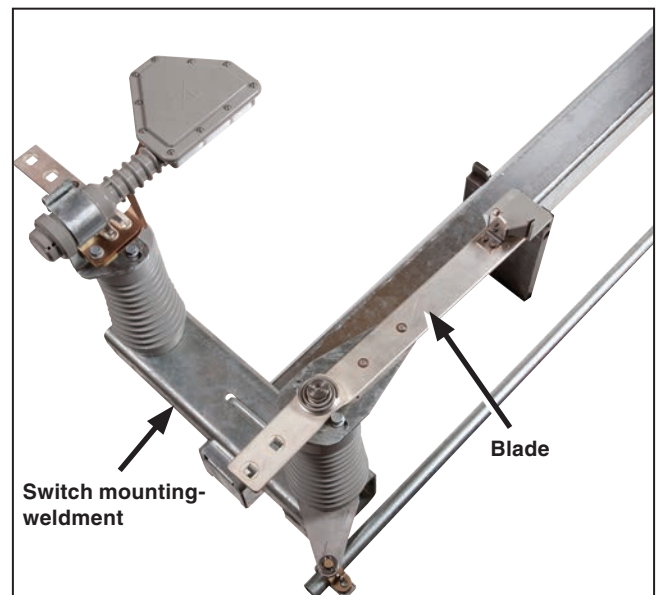

Figure 21. Blade at 90 degrees from switch mounting-weldment position.
- (b) With the operating handle as far as it will go in the opening direction, the switch blades are 90 degrees from the **Closed** position (perpendicular to the switch mounting-weldment). See Figure 21.